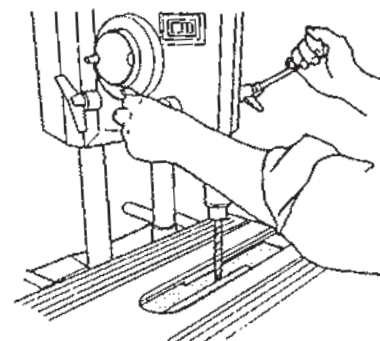

Figure B-54
12. With the drill bit above the table opening, use the quill feed to extend the bit 1/2" into the table opening, as in Figure B-54.